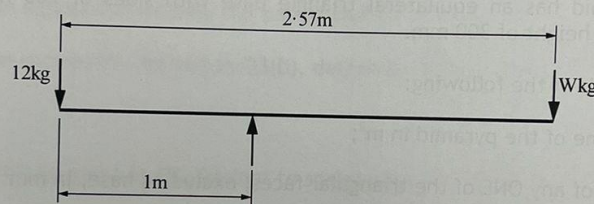

FIG Q8
8. FIG Q8 shows a steel bar, of uniform cross section, 2.57 m long having a mass of 11.05 kg.